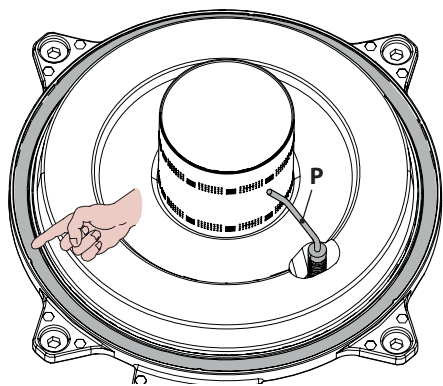

Figure 9.13
- The silicon gasket on the front panel of the combustion chamber Figure 9.13 must be changed if it becomes worn.
- The ignition/detection electrode **P** in Figure 9.13 also serves as a sensor for correctly draining the condensate.